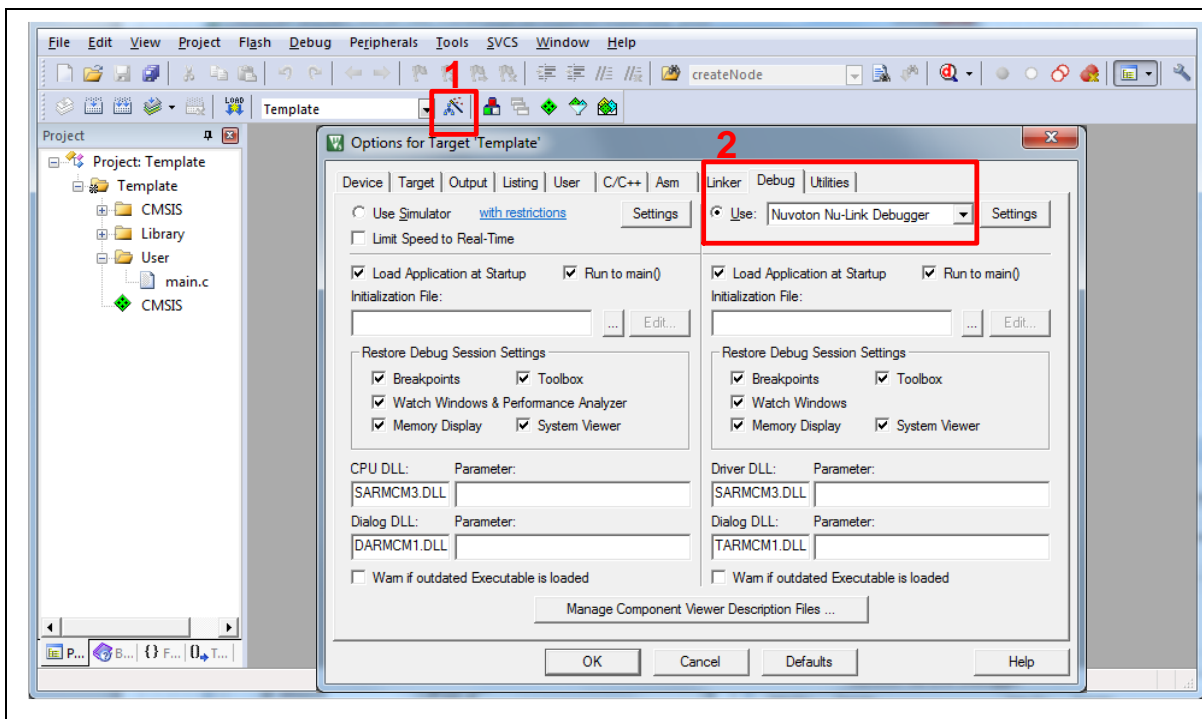
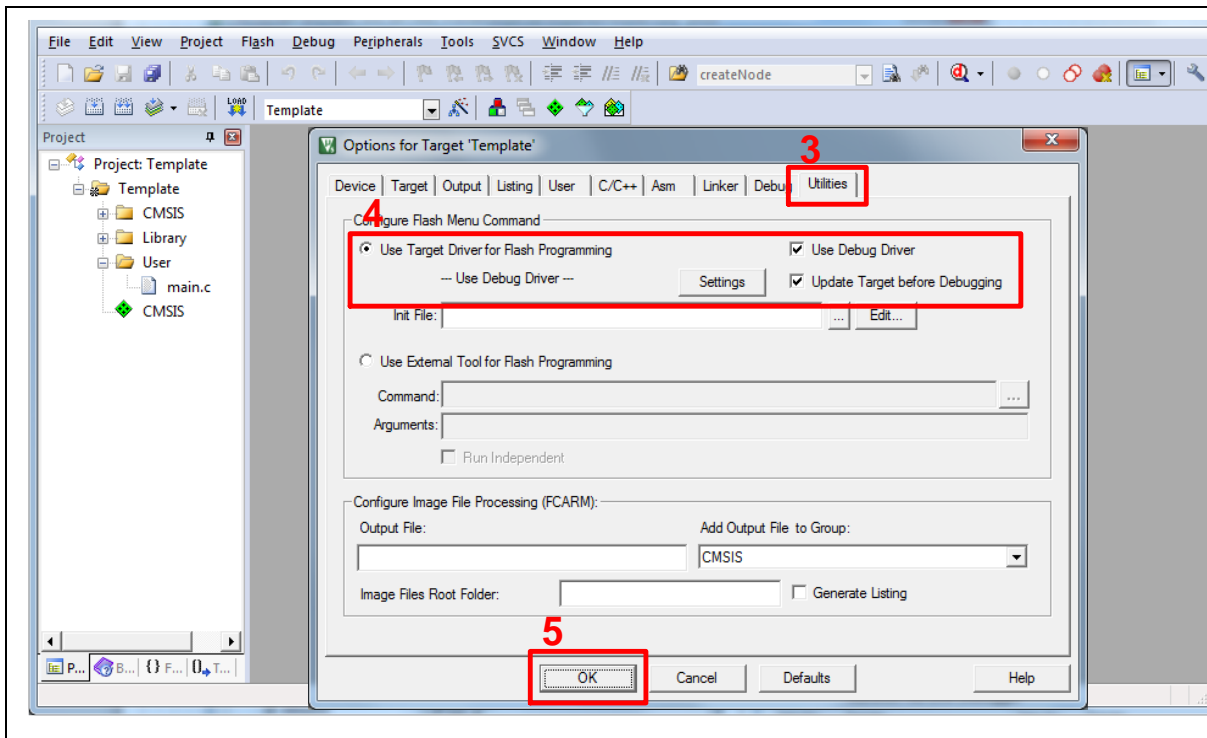

Figure 4-8 Debugger Setting in Options Window
Figure 4-9 Programming Setting in Options Window
2. Make sure the debugger is “Nuvoton Nu-Link Debugger” as shown in Figure 4-8 and Figure 4-9.
**Note:** If the dropdown menu in Figure 4-8 does not contain “Nuvoton Nu-Link Debugger” item, please rework section 4.2.